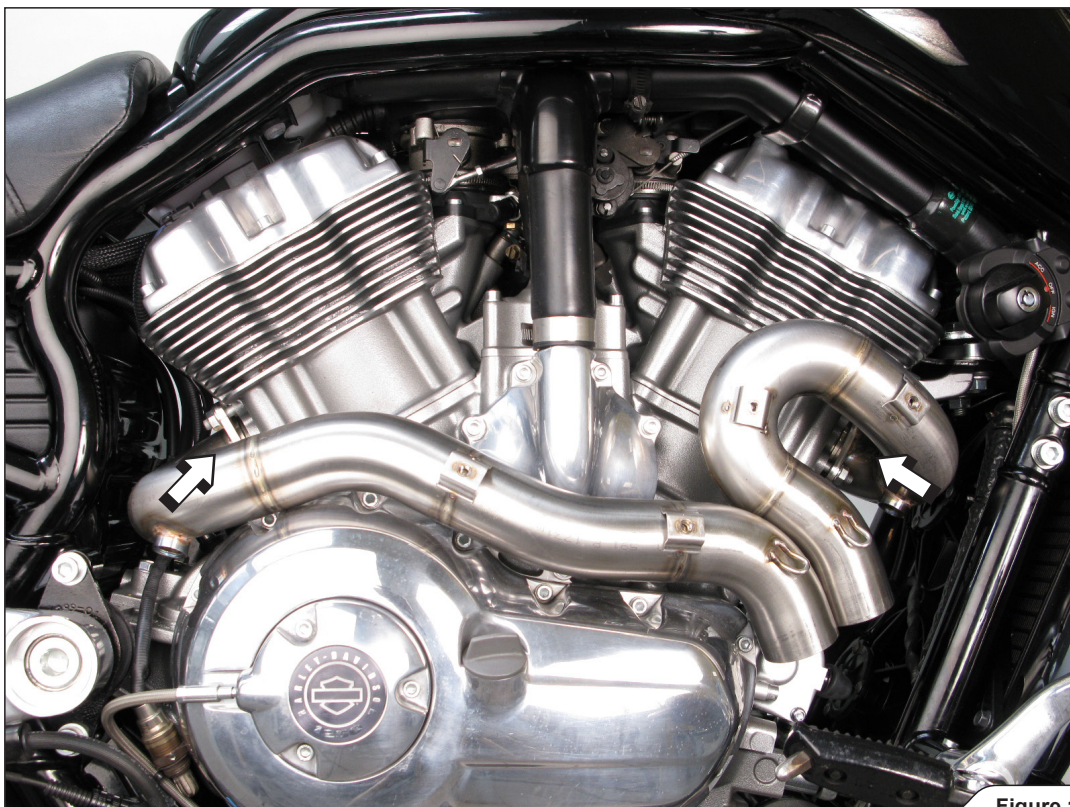

Figure 1
1. Install the Akrapovič header pipes, using original nuts (**Figure 1**).